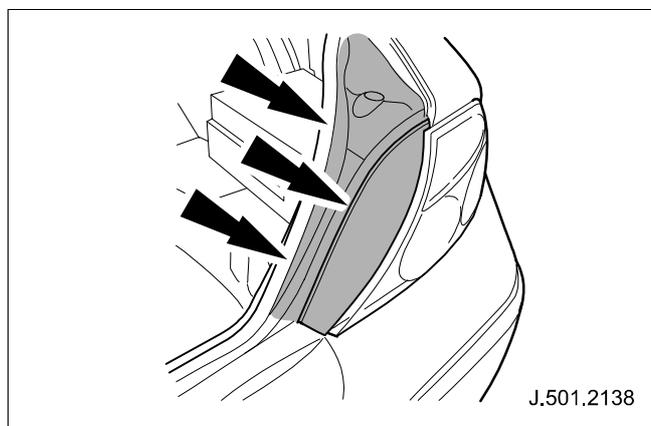

Fig. 26
- 5 Luggage compartment seal and flange, and rear lamp seal. (See Fig. 26)